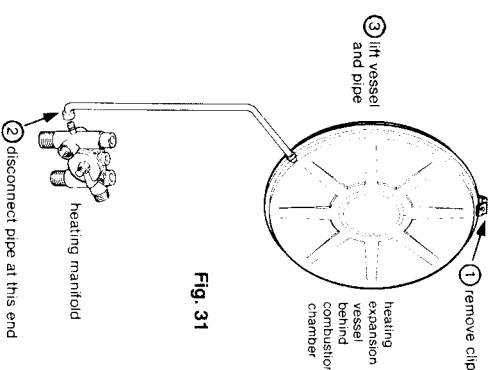

Fig 31
- 8.16.9 Remove clip securing vessel at top. Disconnect expansion pipe at heating manifold, lift vessel & pipe out of appliance. (fig 31)